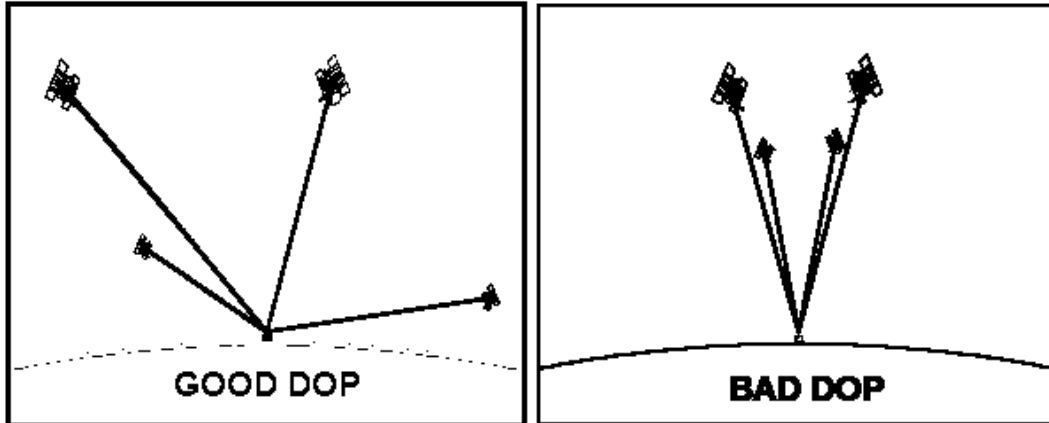

Figure 6-1: Dilution of Precision (DOP)
- **Dilution of Precision (DOP).** The DOP is a measure of the geometry of the visible satellite. The ideal orientation of four or more satellites would be to have them equally spaced all around the receiver, including one above and one below. Because we're taking our position from only one side of the Earth, that's really not possible since that part of space is blocked by the planet itself. The next best orientation is to have one satellite directly above and the other three evenly spaced around the receiver and elevated to about 25 to 30 degrees (to help minimize atmospheric refraction). This would result in a very good DOP value. If all the satellites are clustered together, it would result in a poor DOP value and your readings could be suspect. A low numeric DOP value represents a good satellite configuration, whereas a higher value represents a poor satellite configuration. The DOP at any given moment will change with time as the satellites move along their orbits. When the satellites are widely spaced, the overlap area of the two zones of possible satellite range error is relatively small. The diagram below on the left illustrates a pair of widely spaced satellites which would result in a good or low DOP value. The diagram on the right in Figure 6-1 illustrates poor satellite geometry resulting in poor or high DOP.